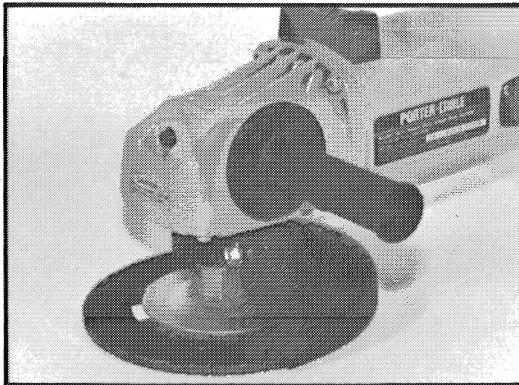

Fig. 6
This machine has a directional arrow cast into the top of the gear housing which indicates the direction any accessory will rotate. See Fig. 6.
When disc grinding, use a depressed center wheel with a wheel adapter and wheel guard. (See Fig. 6). **ALWAYS USE A WHEEL GUARD OF THE CORRECT SIZE WITH DEPRESSED CENTER WHEEL.** Refer to the back of this manual for a list of available accessories recommended for use with your machine.
4. Position the guard (C), so that flying chips or pieces of wheel that might accidentally break will be deflected away from the operator. Fig. 6 shows the guard installed for use with depressed center grinding wheel.
Use depressed center grinding wheel with wheel adapter kit and safety guard (see Fig. 6). ALWAYS USE SAFETY GUARD WITH DEPRESSED CENTER GRINDING WHEEL. The guard shall be positioned so that flying chips or pieces of a wheel that might accidentally break will be deflected away from the operator. Install auxiliary handle in either side of the gear housing. Firmly grip the auxiliary and rear handles. Lift up rear handle so only the front sector of the grinding wheel contacts work before starting or stopping the motor. When the grinder is not being used, rest it on the tool rest and rear handle.